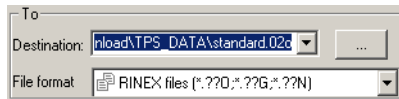

Figure E-25. Destination for Converted File
- Click **Select**. The full path of the file displays in the *Destination* field (Figure E-25).